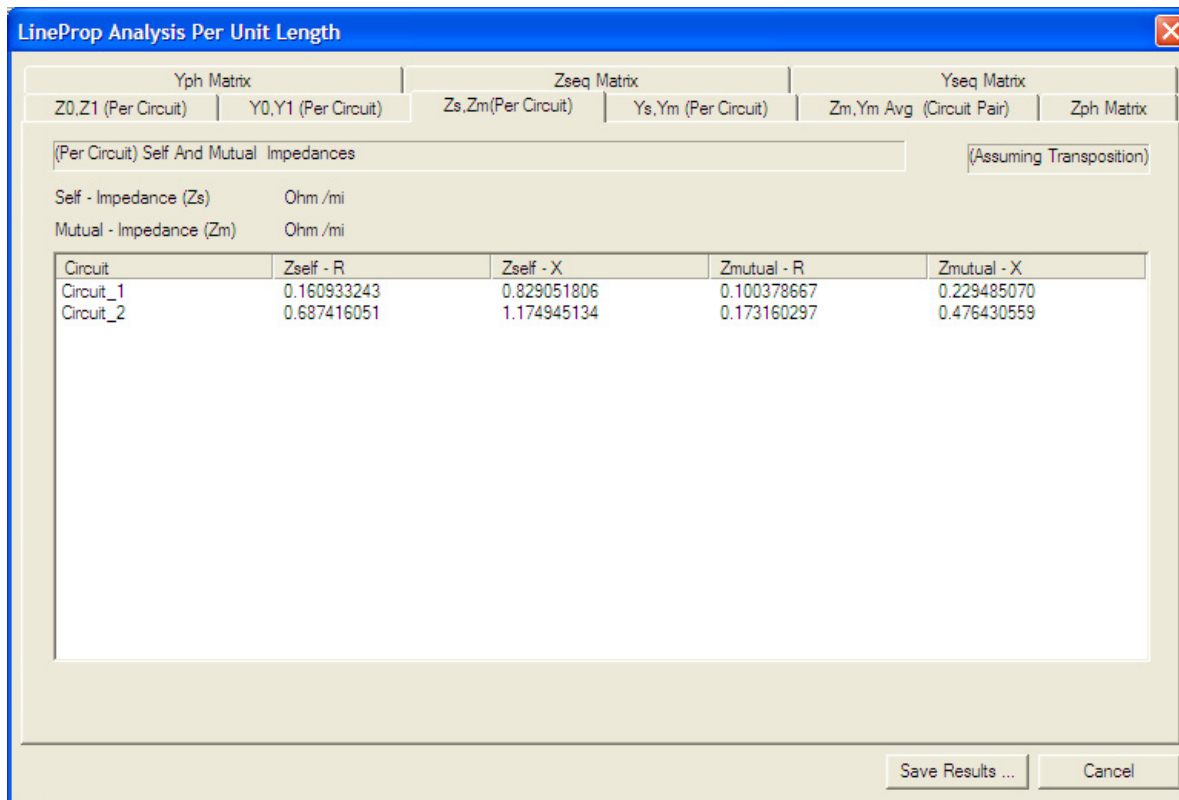

Figure 1-32. Sample Self and Mutual Impedances Report
- **Self and Mutual Impedances for Each Circuit** ("Zs,Zm (Per Circuit)" Tab). As shown in Figure 1-32, the average self and mutual impedances are shown for each circuit in the corridor.